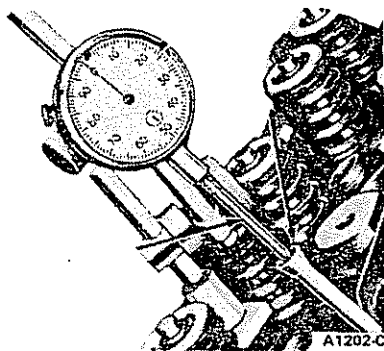

FIG. 6 Typical Camshaft Lobe Lift Hydraulic Valve Lifters—V-8 Engine
2. Remove the valve rocker arm assembly(ies) and install a solid, tappet-type push rod in the push rod bore of the camshaft lobe to be checked or use the adapter for ball end push rods shown in Figure 6.